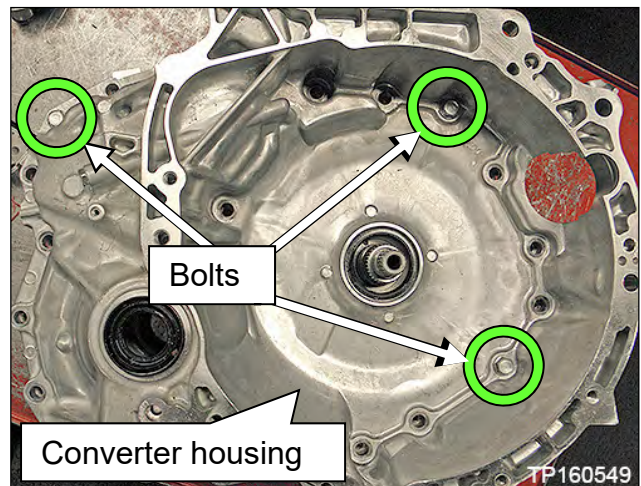

Figure 70
54. Temporarily install the converter housing onto the CVT case with three (3) bolts finger tight (Figure 70).